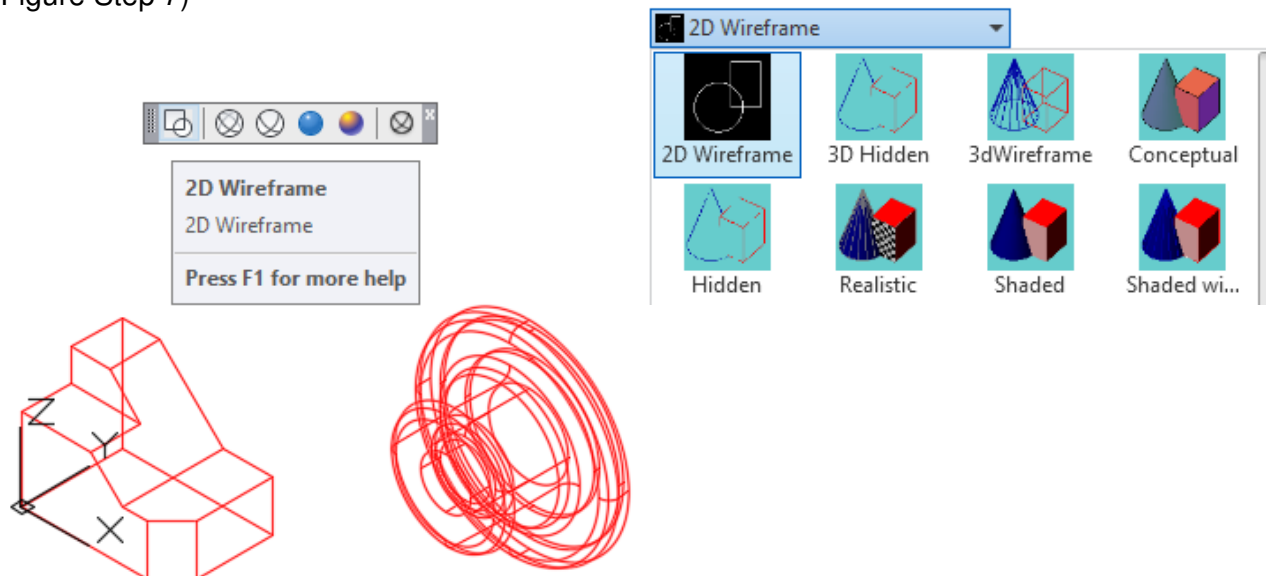

Figure Step 7
Step 7 If you are using Toolbars menus, enable the Visual Styles toolbar. If you are using the Ribbon Menus, click the Home tab. Enable the 2D Wireframe visual style icon. You can tell when the current visual style is 2D Wireframe by the appearance of the UCS icon. (Figure Step 7)